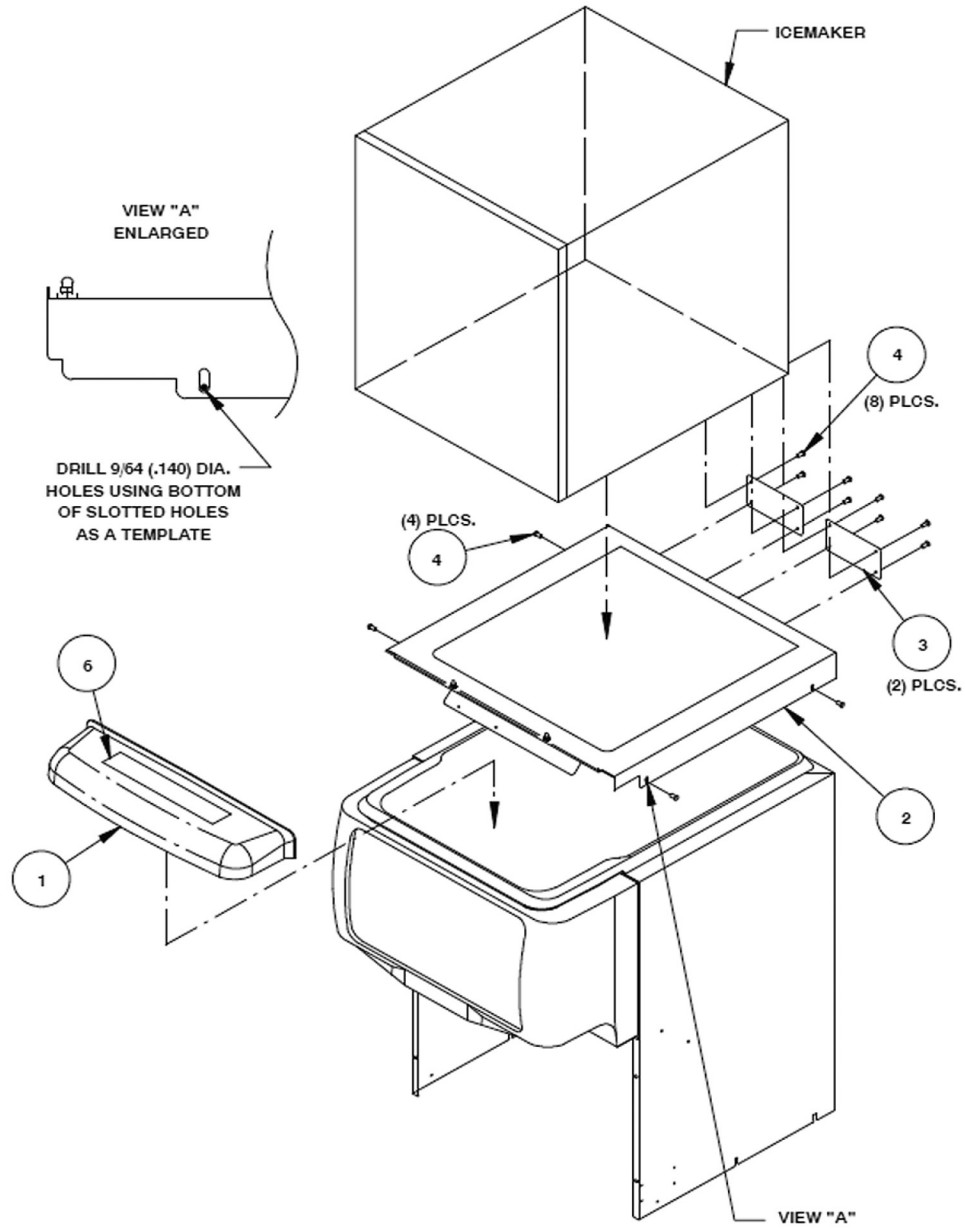
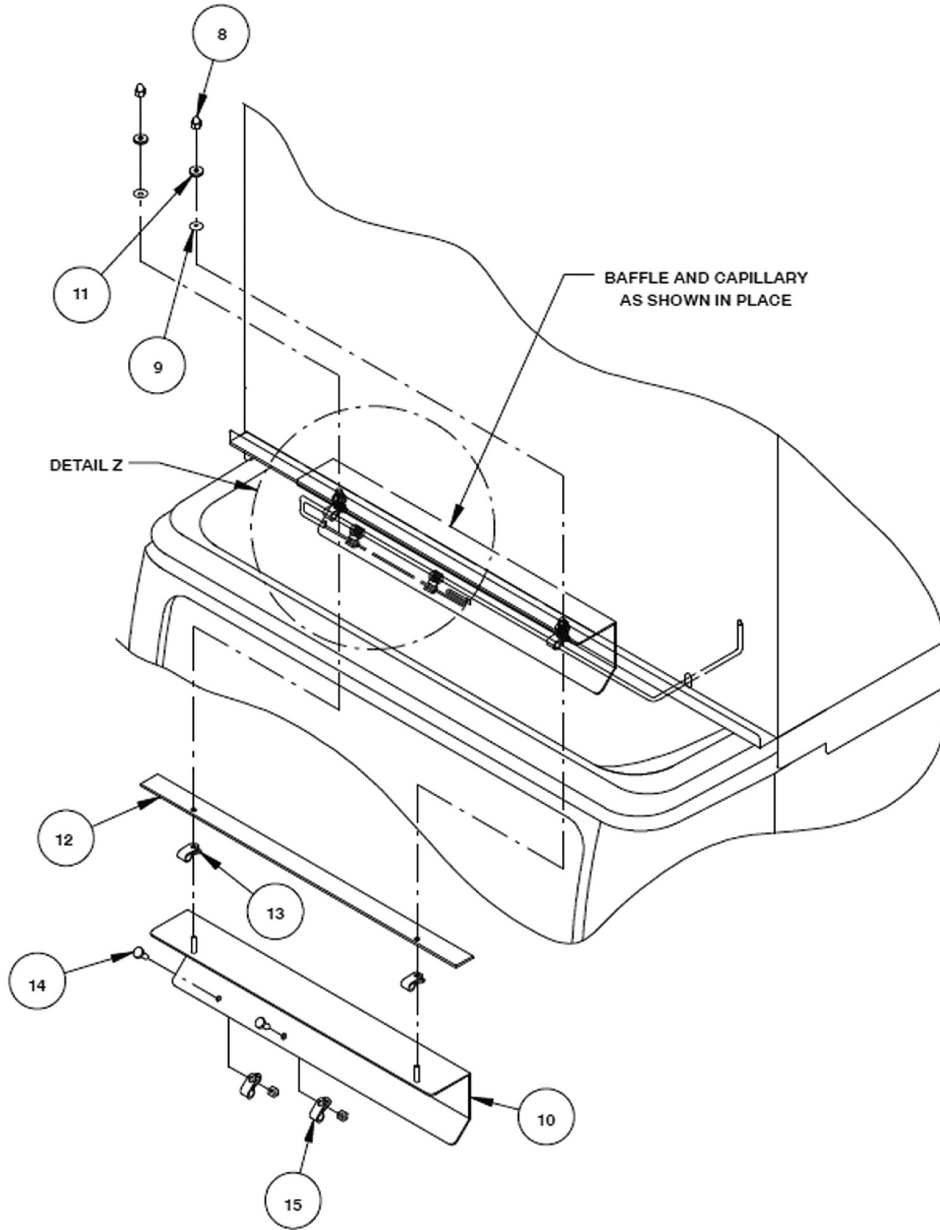
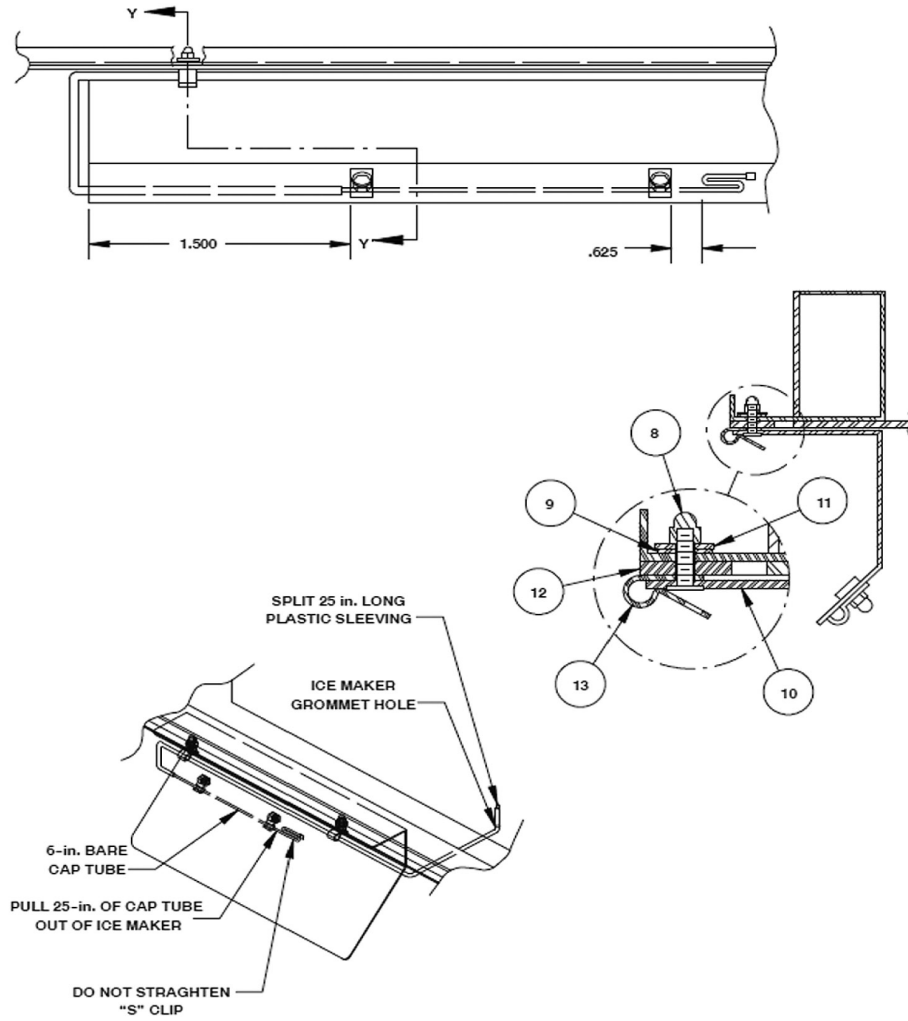

Figure 1. Dispenser Assembly
Figure 2. Baffle
Figure 3. Capillary Tube Location
3. Place two (2) sealing cap washers (item 9) over studs and two (2) NYLON WASHERS (item11), then fasten in place with two (2) acorn nuts (item 8).
5. Using the slotted holes in the lid as a template, drill four (4) 0.140" diameter (9/64") holes at the bottom of the slots (see Detail A of Figure 1). Use extreme care not to drill into the hopper. Fasten the lid to the dispenser with four (4) #8 sheet metal screws, two on each side.
8. Mount the bin stat kit (item 17) as instructed except for the bin stat capillary tube mounting.
9. Pull 32-inches of capillary tube out of bottom of the ice maker. Slit and place vinyl tubing (item 16) over the capillary tube leaving 6-inches of bare capillary tube exposed between capillary "S" bend and vinyl tubing.
10. Assemble two (2) nylon clamps (item 15) to the back side of the ice baffle (item 10) with two (2) screws (item 14) and acorn nuts (item 8). *Do not overtighten.*
11. Route capillary tube around baffle as shown in Figure 2 and Figure 3.
12. Position two (2) nylon clamps (item 15) on studs of ice baffle (item 10) and two (2) NYLON WASHERS (item 11) on studs as shown.
14. Place two (2) sealing washers (item 9) over studs and fasten in place with four (2) acorn nuts (item 8).
15. Route and form capillary as shown in Figure 2 and Figure 3. Tighten two (2) plastic clamps (8-32 X 3/8" screws) to hold capillary tube in place.